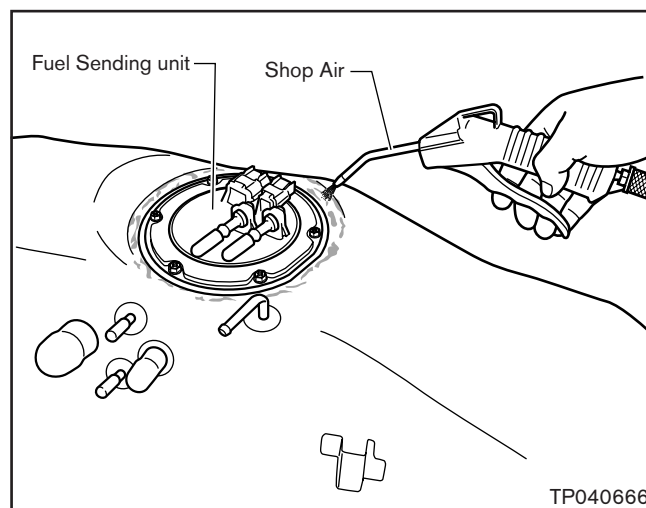

Figure 14
- a. First, use shop air to clean the area around the Fuel Sending Unit and Mounting Flange (see Figure 14).